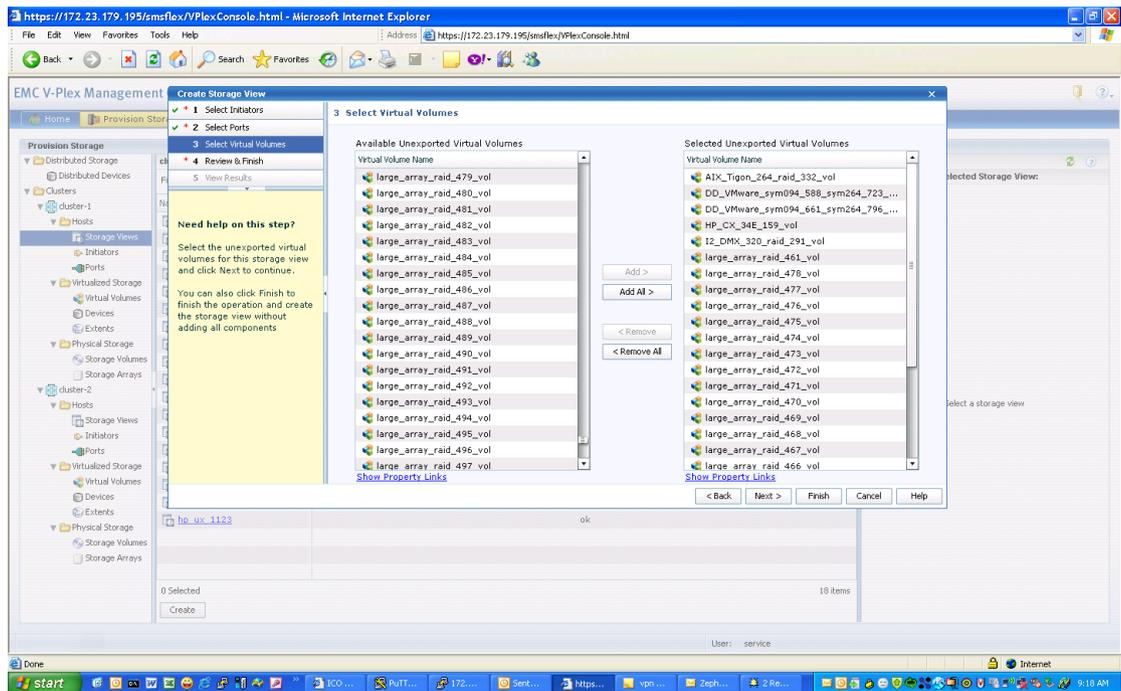

Figure 21 Add virtual volumes to storage view
4. Adding virtual volumes to the storage view, as shown in Figure 21.